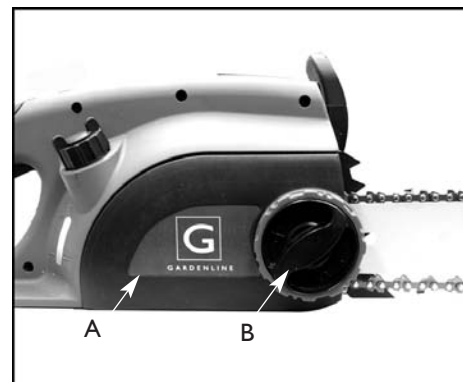

Fig. 3A
2. To remove the side cover (A), turn the knob (B) counter-clockwise.(Fig. 3A).